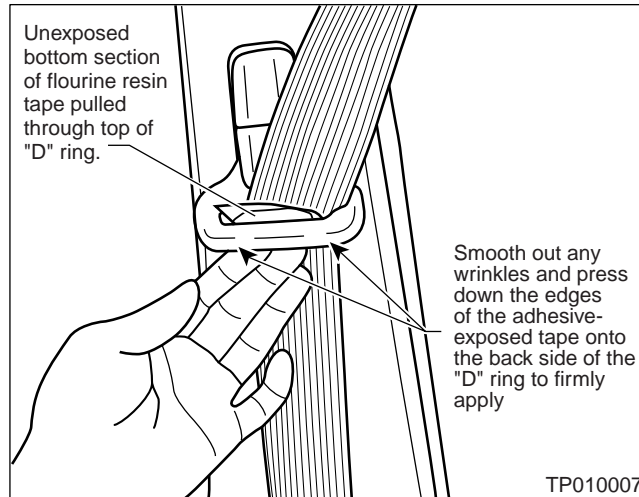

Figure 10
- As the top section of the adhesive-exposed tape rolls up to the "D" ring, center and smooth the tape around the back side of the "D" ring (see Figure 9B above and Figure 10 on page 9).
9. Run your finger over the surface of the newly applied tape to firmly apply it to the back side of the "D" ring. Press down the edges of the tape, and smooth out any air bubbles or wrinkles (see Figure 10).